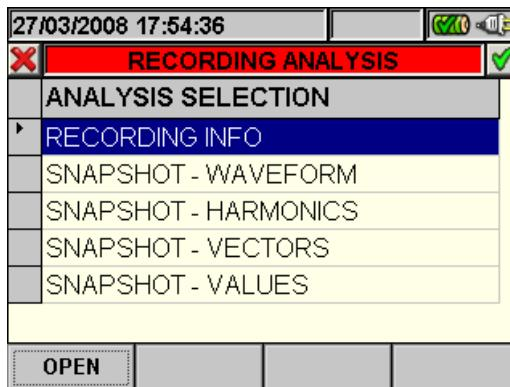

Fig. 98: Recording analysis (Instant-type data)
2. Press the **ESC** key (or the smart icon on the display) to exit the function and go back to the “Recording analysis” page (Fig. 98).
- The **ESC** key (or the smart icon  on the display) to exit the function and go back to the "Recording analysis" page (Fig. 98).
- The **ESC** key (or the smart icon  on the display) to exit the function and go back to the “Recording analysis” page (Fig. 98)
- The **ESC** key (or the smart icon  on the display) to exit the function and go back to the “Recording analysis” page (Fig. 98).